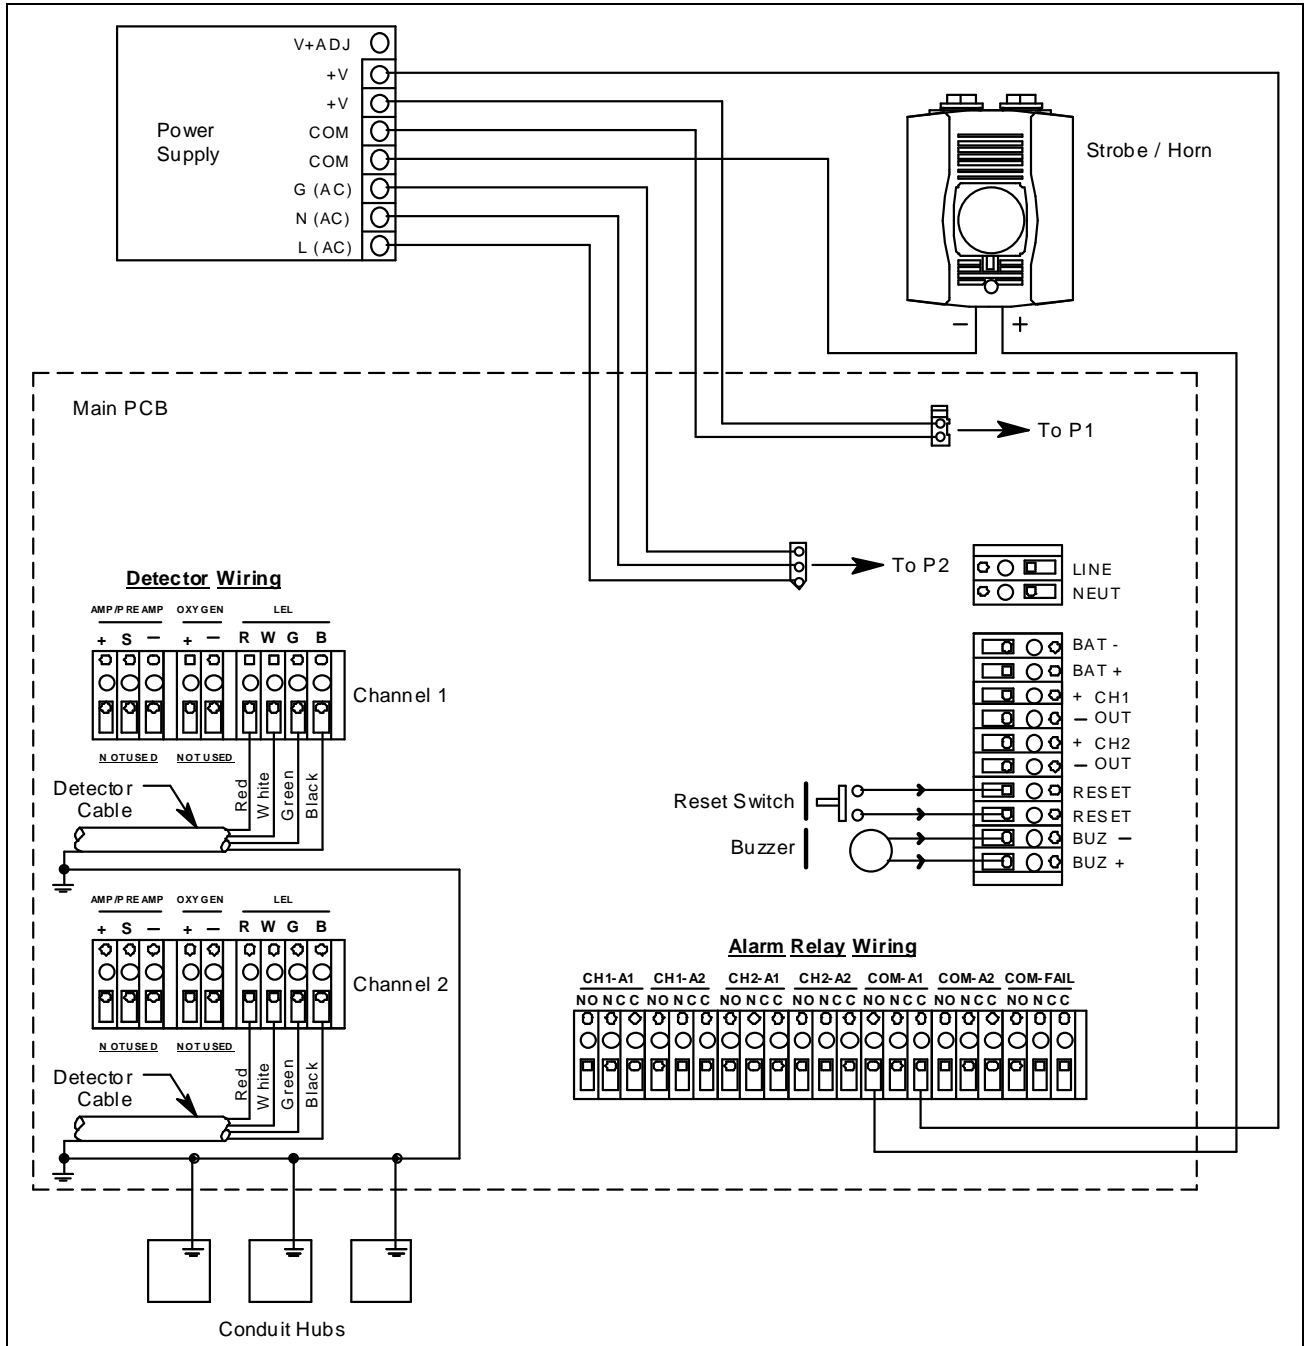

Figure 7. Beacon 200 Factory Wiring Diagram
5. Connect the DC wires to the controller terminal strip as shown in Figure 7.